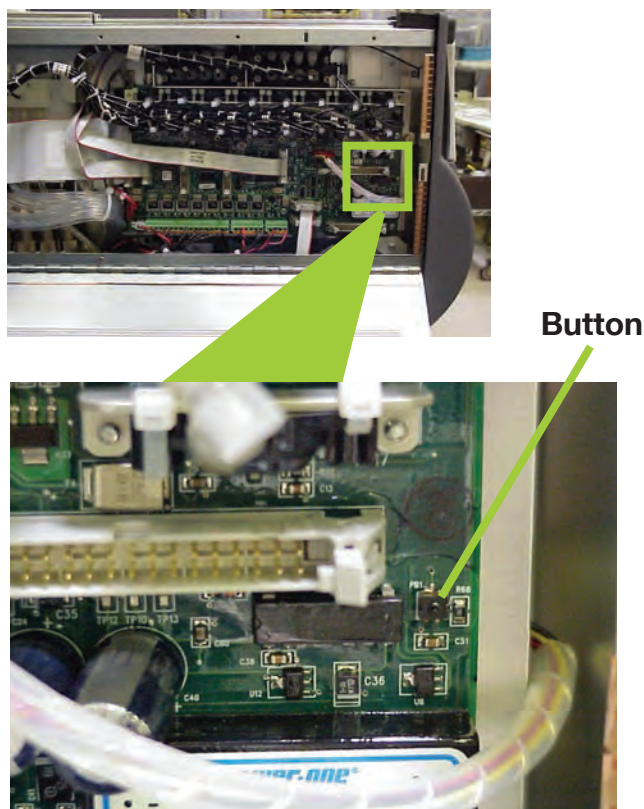

Figure 6-1. Vertex M Analyzer Manual Override Button Location
The Vertex M Analyzer is equipped with a “Manual Override” button (Figure 6-1) in the event the communications to the Vertex M Data Acquisition (DAQ) computer halts. This button activates only when the communications has completely ceased.
4. Approximately 20 seconds after the Ethernet Cable has been disconnected, the Analyzer will recognize that it has lost communications with the DAq and activate the “Manual Override” button shown in Figure 6-1. The LEDs on the front of the Analyzer will flash to show a Maintenance Fault per the LED status flash pattern shown in Table 6-1.